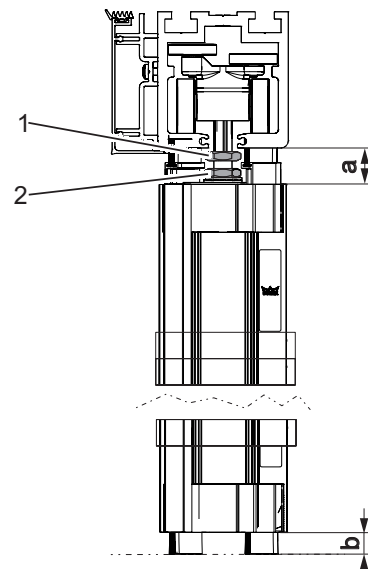

Fig. 23: Height-alignment of the panels
1. On both rollers, loosen the nut (Fig. 23/2) and adjust the screw at the hexagonal (Fig. 23/1) until the height distance to the floor is 10 mm (dimension b). Pay attention to the upper dimension a (20 ± 4 mm).